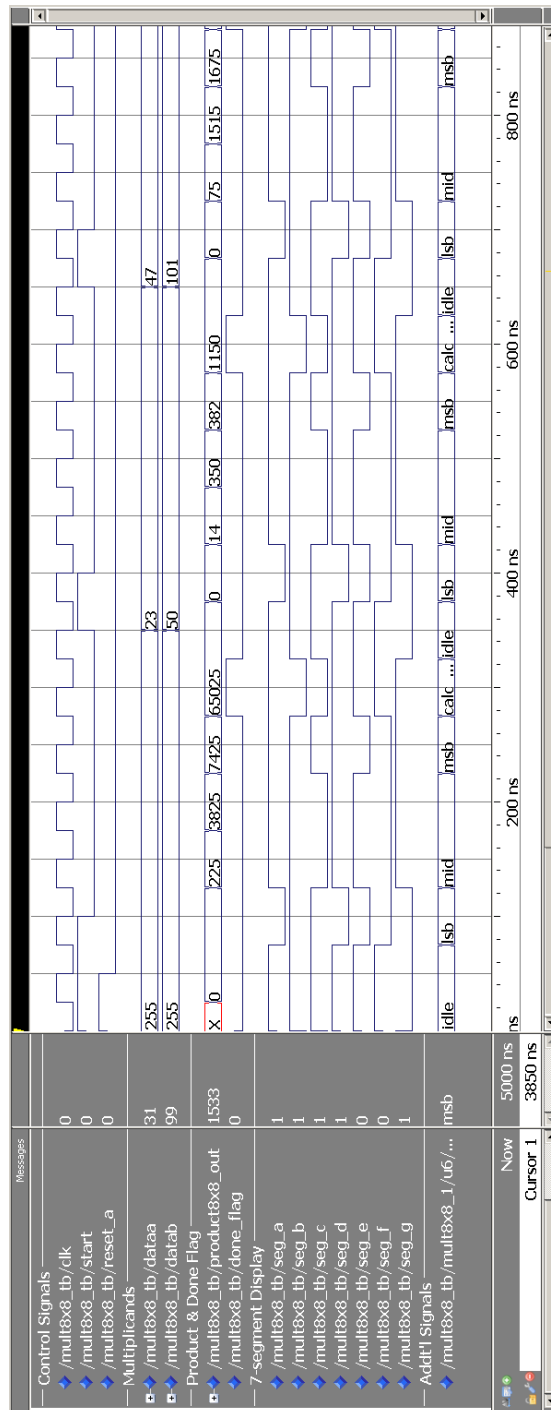

Figure 5-3: 8x8 multiplier simulation results (1st 900ns shown)
- \_\_\_\_ 3. Check simulation results for correct functionality. Bring the **Wave** window to the foreground. Use the Zoom In tool to zoom until you can see the product output calculations. Your results should look similar to Figure 5-3 below. Note that each time **done\_flag** goes high, the design is returning the product of the current inputs. Note that each time **done\_flag** goes high, the design is returning the product of the current inputs.